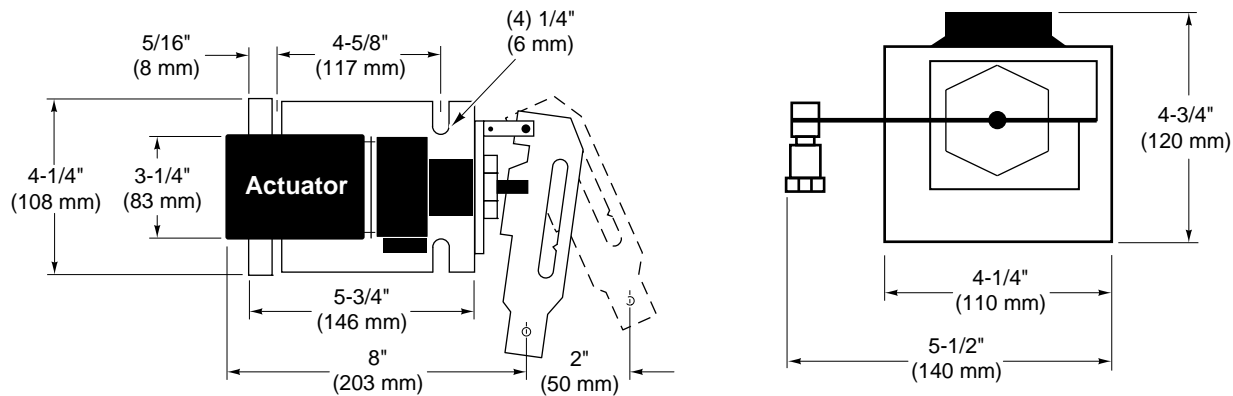

Figure-16 Damper Linkage Assembly Dimensions.
- b. Be sure to allow adequate working space around the actuator mounting location to mount the actuator, link it to the damper, and wire it into the system (refer to Figure-16).
2. Position the actuator on the duct and mark the location of the mounting holes, using the actuator mounting bracket as a template (refer to Figure-16).